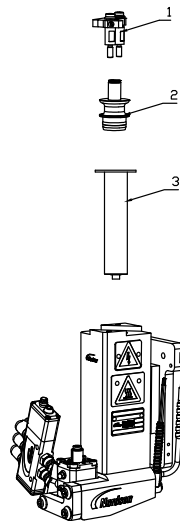

Figure 11 Loading a Flush Syringe – PURJet 30XT
1. Load a flush syringe in the applicator as follows (See Figure 11):
- a. Open the adhesive syringe latch (1) and remove the air cap (2).